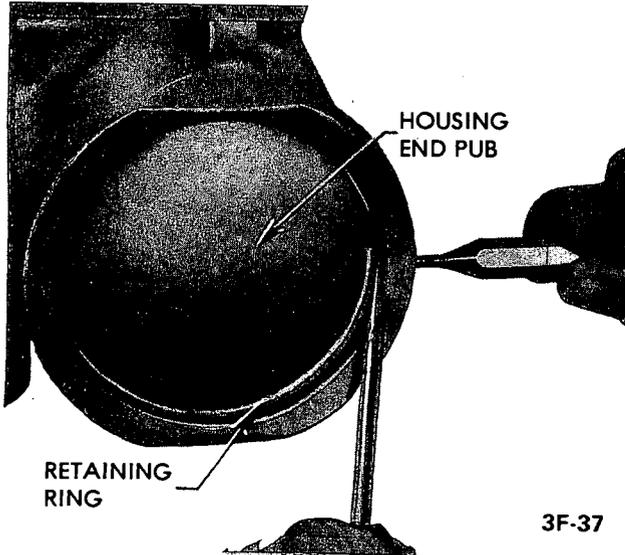

Figure 3F-9 - Removing End Cover Retaining Ring
1. Rotate end cover retainer ring so that one end of the ring is over the hole in the side of the housing. Force the end of the ring from its groove and remove ring. Figure 3F-9.